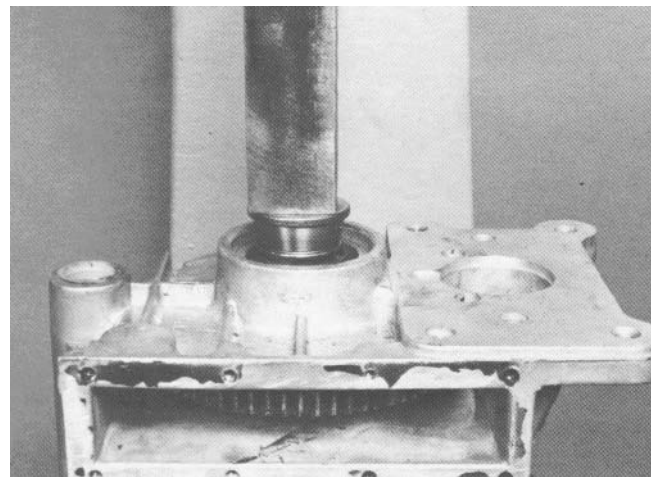

Figure 32
9. With a hollow press sleeve of proper diameter, press on the outer bearing cone race until the drive pinion seats in the carrier and a slight drag is felt when the gear is rotated by hand (Fig. 32). If more than 2-13 in.-lb. (.2-1.5 Nm) torque is required to rotate the pinion and spur gear, tap the pinion shaft with a soft mallet until the drag is reduced.